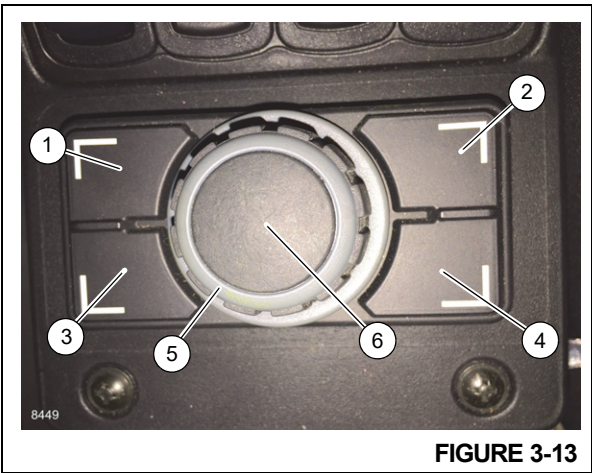

FIGURE 3-13
The Jog Dial operates the CCS identically to buttons on the display console, providing easier access for the operator. Rotating the jog dial performs the same function as navigation arrow buttons on the display console. The icon in the lower left corner of the display screen reminds the operator which display is being controlled by the jog dial at that time. The Screen Toggle Button (4) (Figure 3-13) is used to switch screens. The tab button can also be used to temporarily silence audible alarms. Other buttons operate differently depending on area, screen, and menu.
The main screen (below) appears on the operating display (lower screen) when the key is turned on. The main screen displays the crane system status. The amber lit icons are enabled. It also displays data from codes on other screens. The operator can choose and activate areas from this screen. The Escape Button (1) (Figure 3-13) defaults back to the main screen.
When menu button on the jog dial (3) (Figure 3-13) or control panel of the CCS is pressed, an overview of menu groups displays.
For choosing options during rigging. This is the only function where the menu button (3) (Figure 3-13) will not automatically navigate directly to the menu screen. It must be selected and chosen with the menu icon on the lower left of this screen.
Press OK/Enter button on display or jog dial (6) (Figure 3-13) to exit outrigger screen.
Press Escape button (1) (Figure 3-13) to leave menu and return to CCS main screen. The operator can now navigate to the RCL screen.